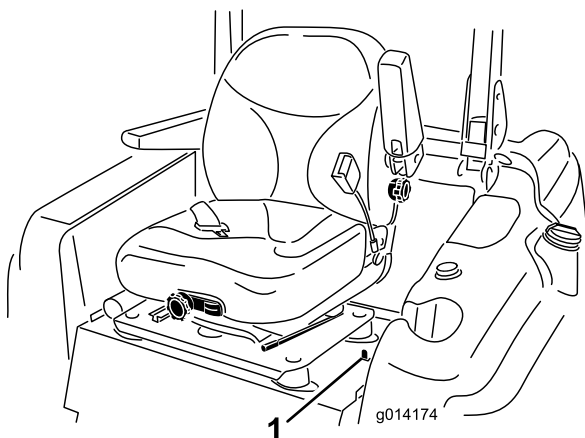

Figure 32
1. Move the seat latch, located on the left side of the seat, rearward to unlatch the seat and pull forward on the top of the seat (Figure 32).